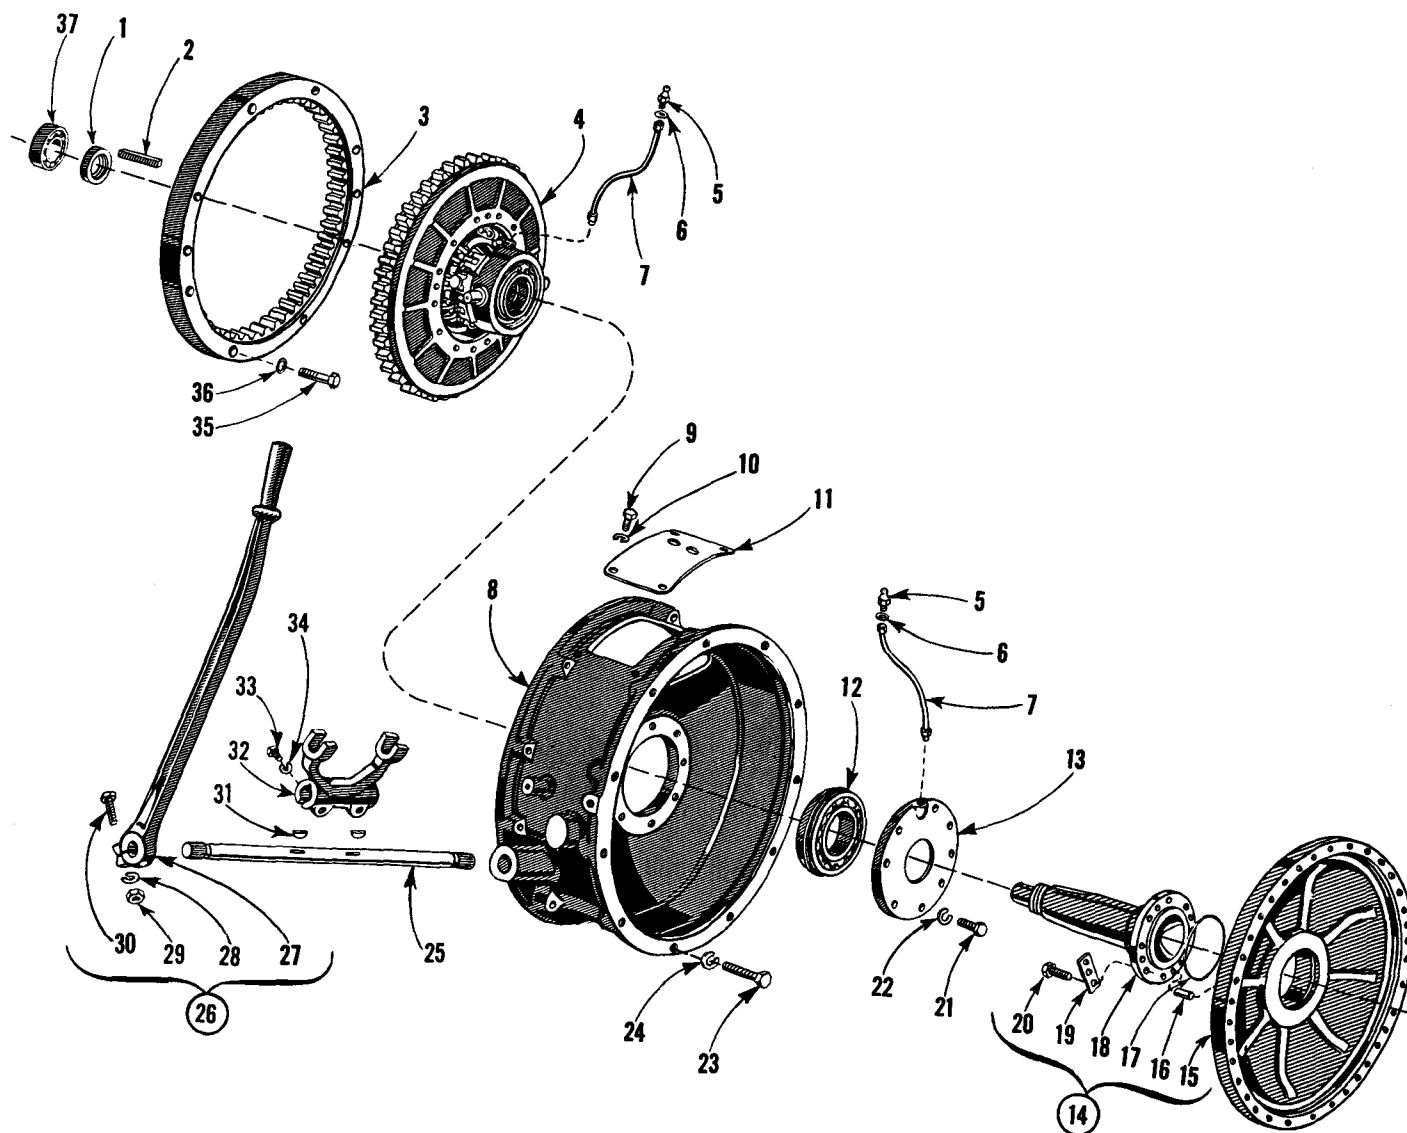

Fig VIII-11. Manual, overcenter, input-disconnect clutch — exploded view
#### b. Removing Sealed Ball Bearing (fig. VIII-11).
#### c. Removing Clutch Shifter Mechanism (fig. VIII-11).
#### e. Installing Clutch Shifter Mechanism (fig. VIII-11).
(3) Place clutch shifter lever (27) in position on the shifter shaft. Install the retaining bolt, lock washer and nut.
f. Installing Sealed Ball Bearing (fig. VIII-11).
(1) Install bearing lube tube (7) on bearing retainer (13).
(2) Install sealed ball bearing (12) in the housing.
(3) Secure the bearing retainer to the housing with eight bolts and lock washers.
g. Installing Converter Drive Housing Assembly and Overcenter Clutch Assembly (fig. VIII-11).
(1) Press or drive converter drive housing assembly (14) into the retainer side of the sealed ball bearing until the shoulder of the shaft protrudes through the bearing approximately 1/8 inch. Be careful not to damage the bearing diameter while pressing on its end.
(2) Install overcenter clutch assembly (4), engaging the throw-out bearing tangs in the shifter yoke as the clutch assembly is slid into place. Be sure to place bearing lube tube (7) toward the clutch housing cover opening.
(3) Install key (2) between the clutch assembly and the converter drive shaft.
(4) Install spanner lock nut (1) and torque to 250 to 300 foot-pounds, using spanner wrench TSD20231. Bend a section of the lock nut into the shaft groove.
(5) Place two grease fittings (5) through flat washers and the housing cover, and screw them into grease lube tubes (7).
(6) Secure the housing cover with four bolts and lock washers.
(7) Press single-row ball bearing (37), with numbered side out, onto the converter drive shaft.